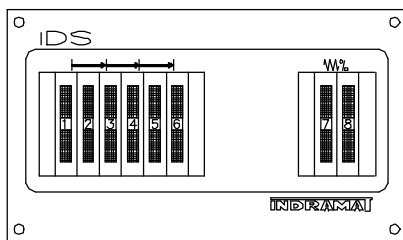

Figure 1-3 Optional IDS
An optional thumbwheel switch module (IDS) with alphanumeric display, illustrated in Figure 1.3 is available for the CLM. The IDS connects to the RS-232 connector of the CLM. This unit is remotely mounted, up to twenty (20) meters from the CLM. The operator selects the required feed length and a feed rate on different sets of thumb-wheel switches. The decimal place (resolution) for the feed length is set by parameter. The feed rate is selected as a percentage of the maximum feed rate set by parameter. All status and diagnostic message codes appear on the two digit LED alphanumeric display.